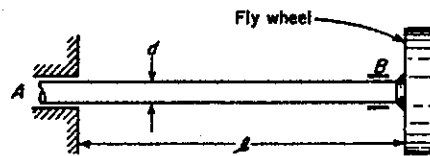

Fig. 7(b)
- (b) A solid steel shaft with a flywheel at one end rotates at constant speed  $n = 120$  rpm, Fig. 7(b). If the bearing A suddenly freezes, what maximum shear stress  $\tau$  will be produced in the shaft due to dynamic effects? Assume  $l = 1.5$  m,  $d = 5$  cm, the weight of the flywheel  $W = 50$  kg, and its radius of gyration  $i = 25$  cm,  $G = 84 \times 10^4$  Kg/cm2.